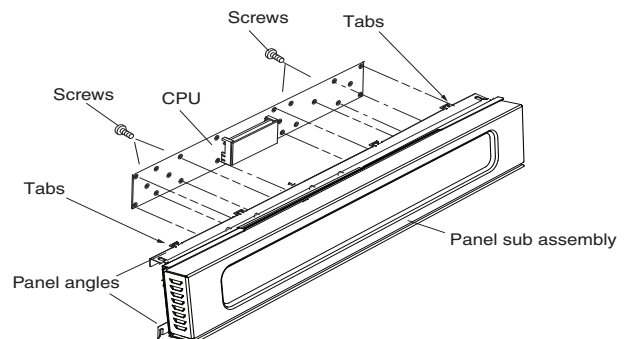

Figure C-6. Panel Angle Removal
6. Remove the four (4) screws holding the control panel assembly to the oven cavity front plate.
7. Slide to release the Locking Tabs on bottom of Panel angle (Fig. C-6).
8. Slide the control panel assembly leftward to release the eight (8) tabs of the control panel assembly from the oven cavity front plate.